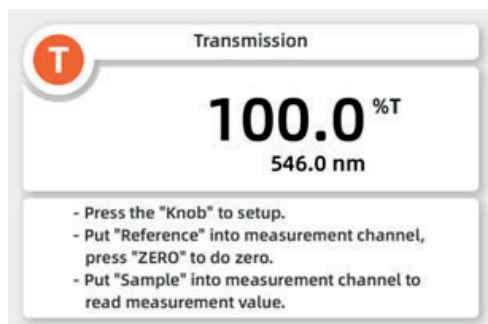

Fig. 6-3 Transmissivity measurement
- On the main screen, turn the knob to the “Transmission” on the screen and press “**ENTER**” to enter (Figure 6-3).